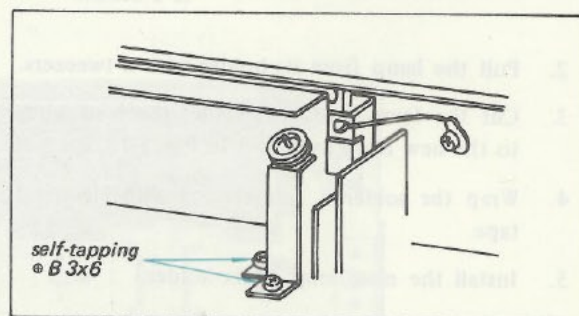

Fig. 2-15. Dial pulley bracket removal
2. Remove the two self-tapping screws (⊕ B 3×6) securing the dial pulley bracket to the chassis as shown in Fig. 2-15.